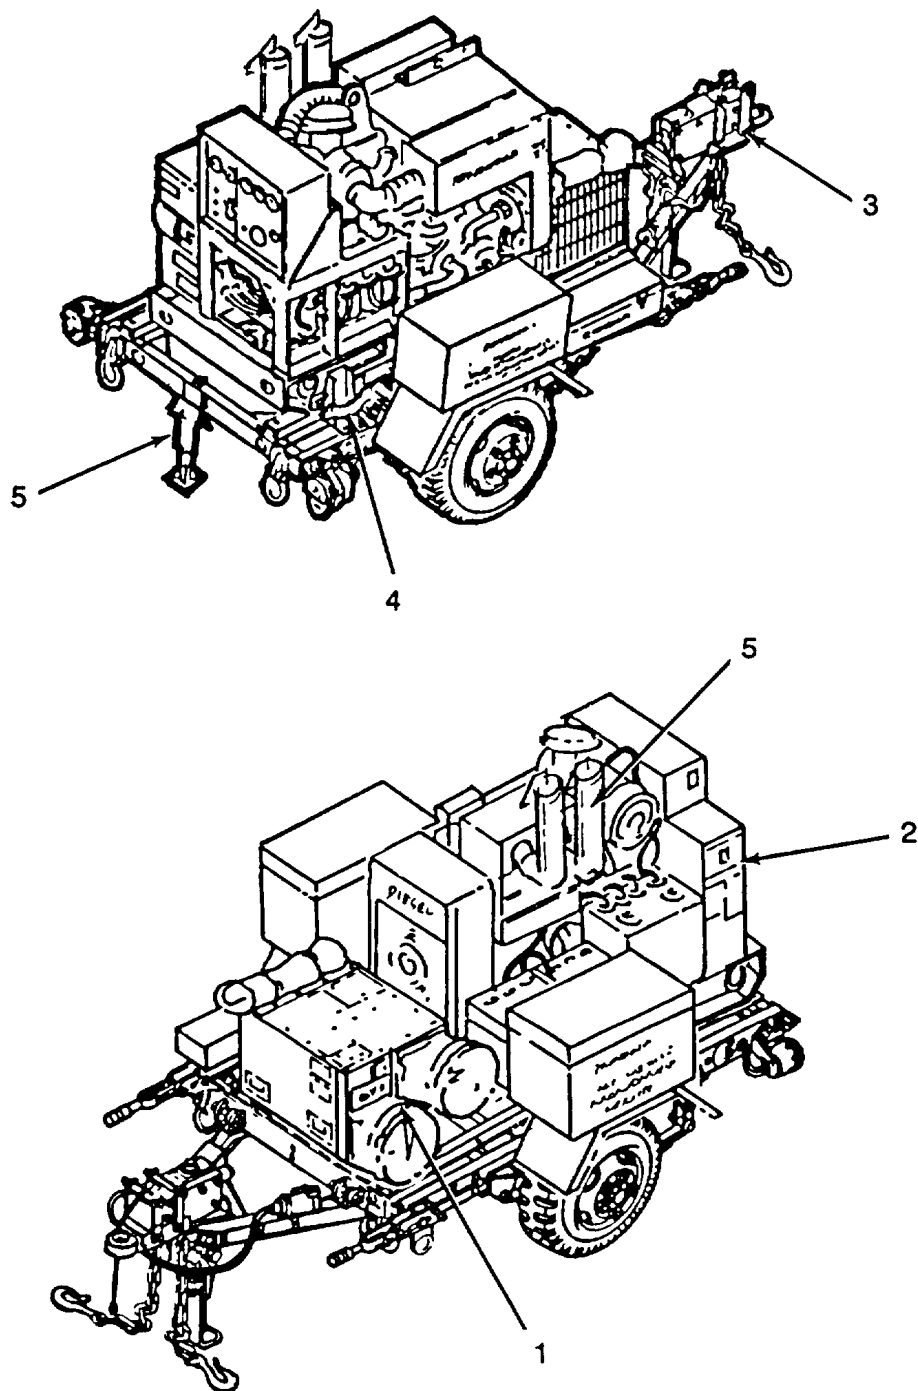

Figure 1-2. Location of Major Components.
**1-9. LOCATION AND DESCRIPTION OF MAJOR COMPONENTS.** (Refer to figure 1-2).